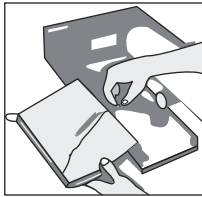

Figure 1
4. Separate film and place around spreader bar. (See Figure 1)